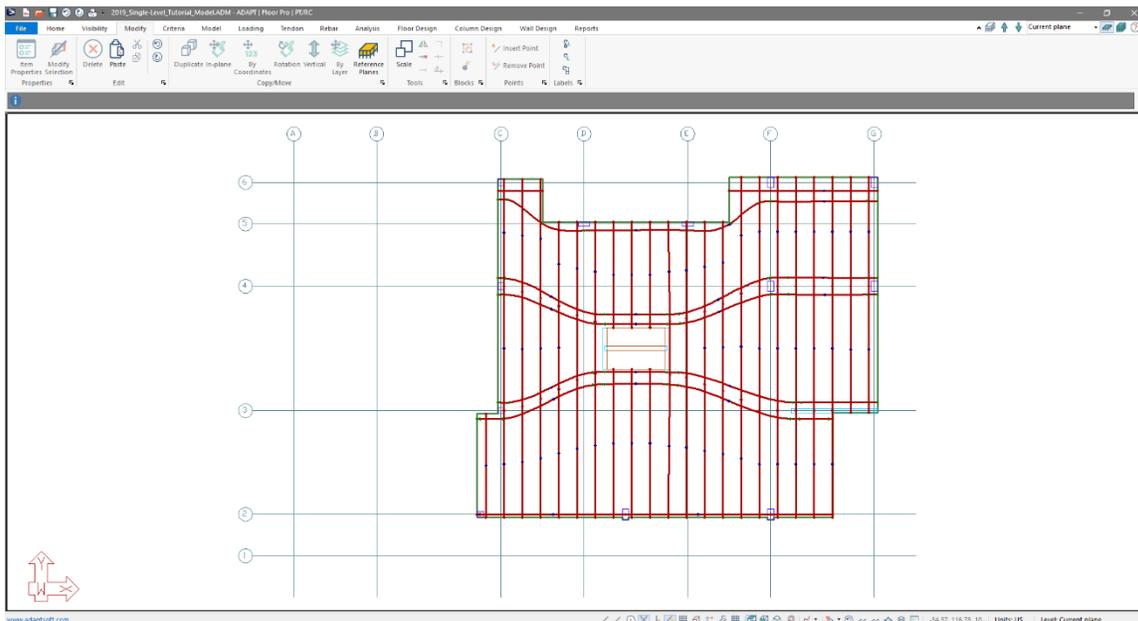

Figure 8-39
- Click on the *Zoom Extents*  icon. The user should see the tendon layout as shown in **FIGURE 8-39**. We now have our preliminary tendon layout.